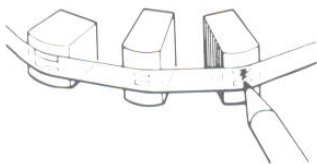

Figure 1
- If you remove the head covers (lift them straight up) you can mark the exact part of the tape with a felt pen right in front of the playback head, see figure 1.